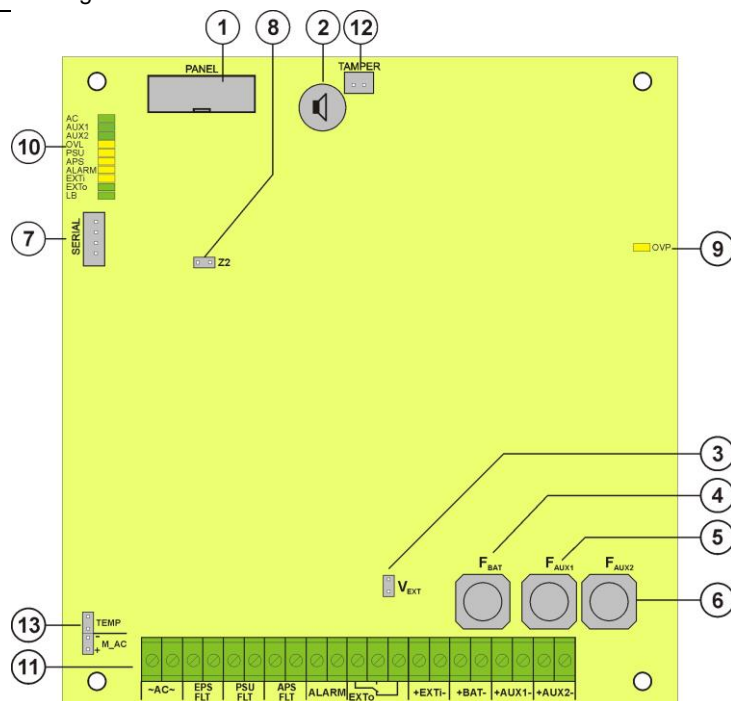
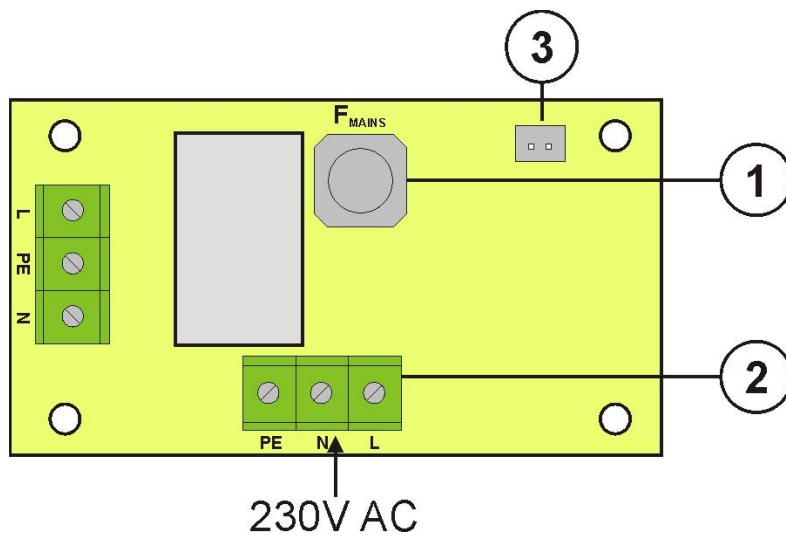

Fig. 2. The view of the PSU's PCB.
Fig. 3. The view of the EMC filter.
Table 1. Components of the Power supply PCB (Fig. 2).
Table 2. Components of the PCB of the EMC filter (Fig. 3).
①	Isolation transformer
②	Printed Circuit Board (see Table 1, Fig. 2)
③	Battery temperature sensor.
④	Space to install an additional module: "INTR", "INTE", "INTW",
⑤	Place to install the EN54-LB4 or EN54-LB8 fuse module
⑥	TAMPER ; microswitch (contacts) of antisabotage protection ( NC )
⑦	EMC filter module (see Table 2, Fig. 3)
⑧	2x17Ah batteries
⑨	Embossing for cable gland
⑩	Embossing for cable gland (WiFi antenna or cable communication interface)
⑪	Embossings for concealed wires
⑫	Lock
⑬	Battery connectors; positive: +BAT = red, negative: - BAT = black